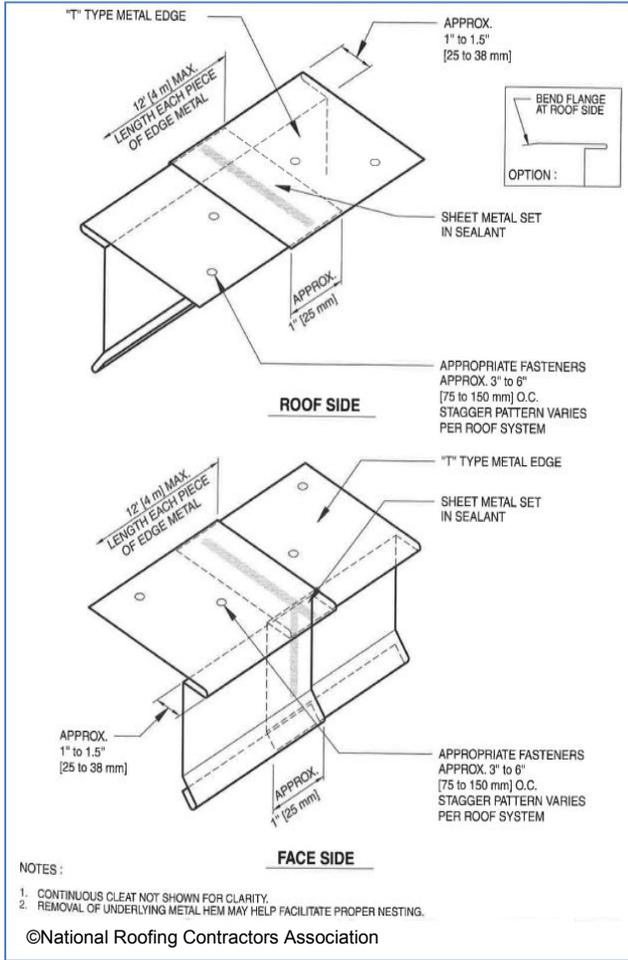
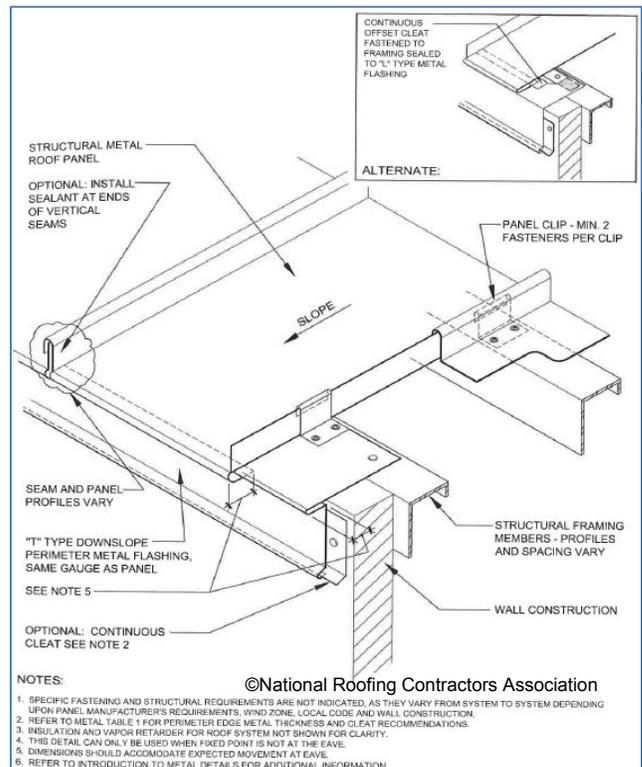

Figure 10-56
Figure 10-63
In some installations, a "T" profile is commonly used as the edge metal at the downslope perimeters and rake edges of metal panel roof systems. The extended flange on the face of the "T" profile edge metal also functions as a cleat that secures the ends of the metal panels along the eave. The "T" profile edge metal is typically secured at its lower edge with a cleat, and the roof flange is fastened to the deck. Typical installation details are illustrated in Figure 10-63, while trim joints are illustrated in Figure 10-56.
- Figure 10-63, "T"-Type Downslope